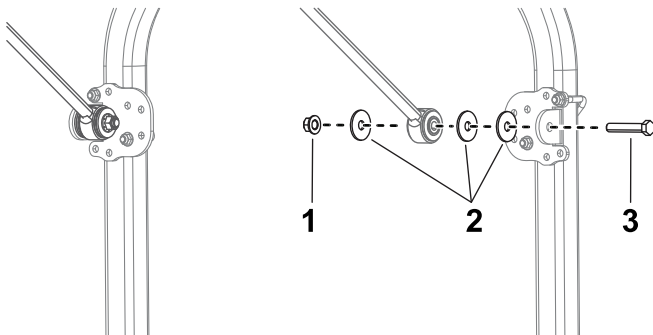

Figure 13
13. On each side of the machine, loosely install a brace bracket to each brace with a bolt (1/2 x 2-3/4 inches), 3 large washers, and flange nut (1/2 inch) as shown in Figure 13.